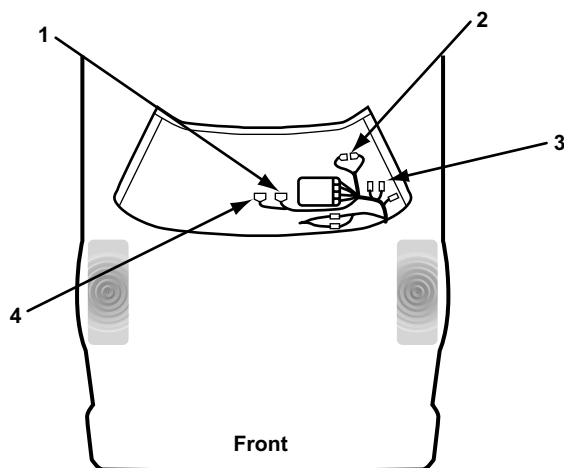

Figure 15-42 1988-94 Justy Carbureted, 1990-94 Justy MFI, 1990-94 Legacy, and 1987-94 L-Series
- “1988–94 Justy Carbureted, 1990-94 Justy MFI, 1990-94 Legacy, and 1987–94 L-Series” on page 204 (Figure 15-42)